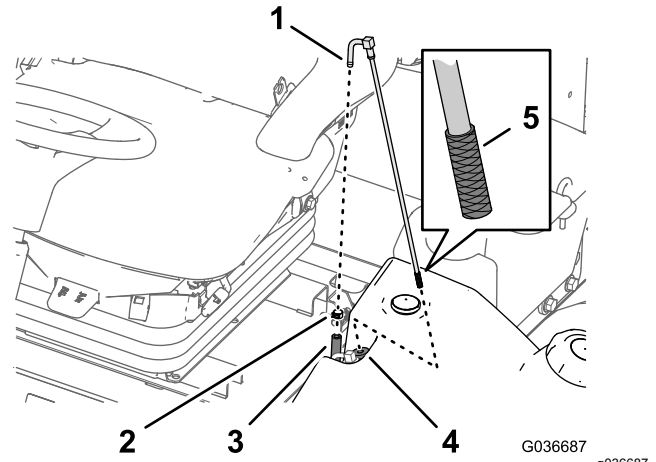

Figure 55
1. Remove the hose clamp that secures the fuel supply hose to the fitting of the fuel-pickup tube (Figure 55).
2. Separate the hose from the fitting (Figure 55).
3. Lift the fuel-pickup tube from the fuel tank (Figure 55).
4. Clean any debris from the screen at the end of the fuel-pickup tube (Figure 55).
5. Insert the fuel-pickup tube through the rubber bushing and into the tank (Figure 55).